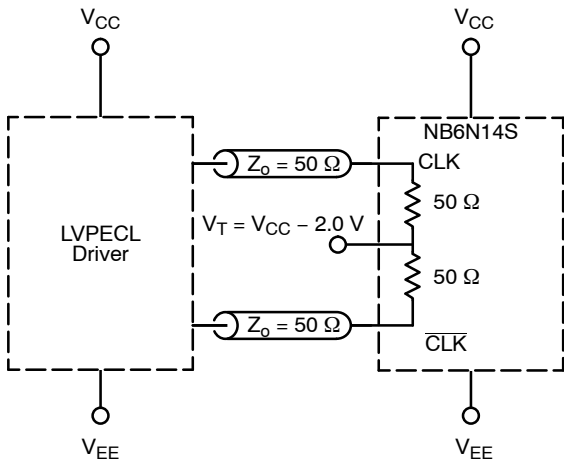

Figure 10. LVPECL Interface
**DIFFERENTIAL INPUTS DRIVEN DIFFERENTIALLY** (Figures 10, 11, 12, 13, 20, and 22)